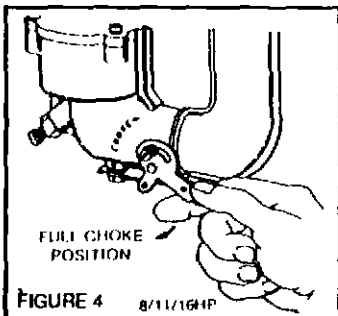

FIGURE 4 8/11/16HP
4. Adjust the carburetor choke as necessary for temperature conditions. Cold starting requires a full choke (Fig. 4 and 4A).
Close the choke if engine is cold (Fig. 4) and firmly press starter button.